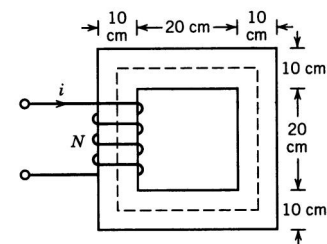

Fig. 1. A simple magnetic circuit.
2. The magnetic circuit of Fig. 1 has a core of relative permeability $\mu_r = 2000$. The depth of the core is 5 cm. The coil has 400 turns and carries a current of 1.5 A.